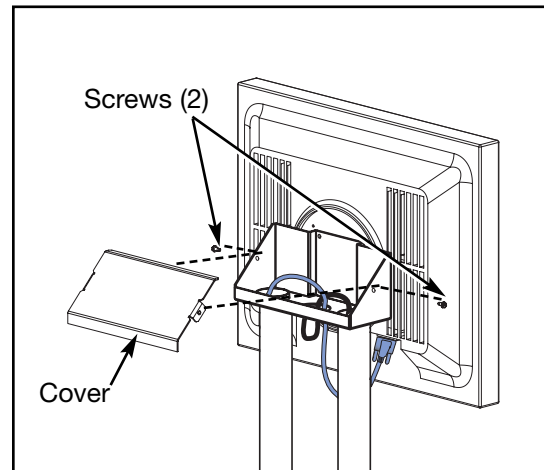

Figure 6
H. Using the Phillips head screwdriver (#28) install the two screws, removed in step 2B, securing the top cover in place. See Figure 6.